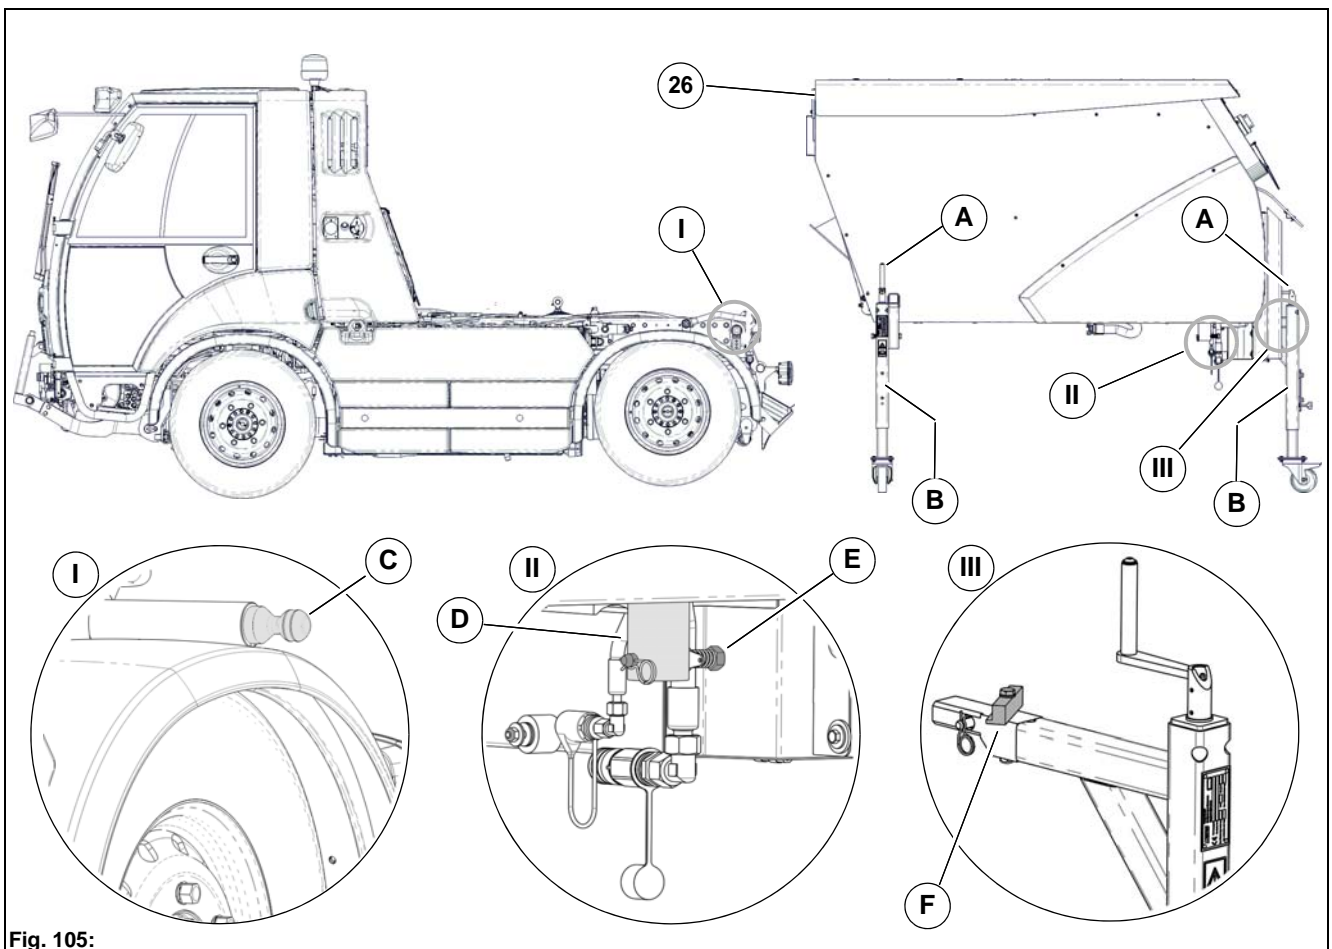

Fig. 105:
2. Remove the buffers **Fig. 105-F** at the rear supports.
3. Use the four cranks **Fig. 105-A** of the front and rear supports **Fig. 105-B** to evenly raise the dirt hopper **Fig. 105-26** and slide over the four tipper balls **Fig. 105-C** of the vehicle.
4. Align the ball holders **Fig. 105-D** of the dirt hopper to the tipper balls of the vehicle frame.
6. Secure the dirt hopper at the vehicle frame using fastening bolts **Fig. 105-E** and splints.